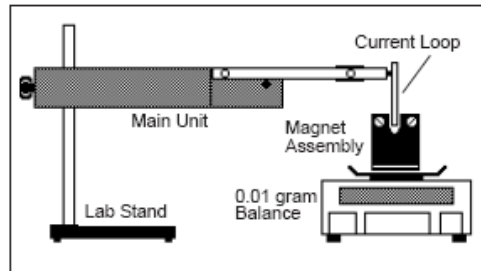

Figure 2.1 Equipment Setup
- ① Set up the apparatus as in Figure 2.1.
- ② Determine the length of the conductive foil on the Current Loop. Record this value under "Length" in Table 2.1.
- ① Set up the apparatus as shown in Figure 2.1. Use the shortest length current loop.